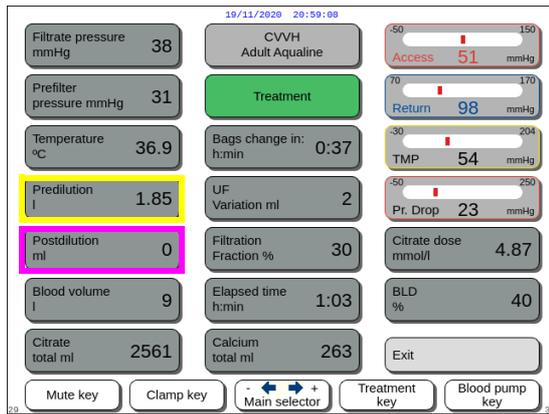

Fig. 168
- *Pre-dilution (ml)* (yellow frame Fig. 168)
- *Post-dilution (ml)* (magenta frame Fig. 168)